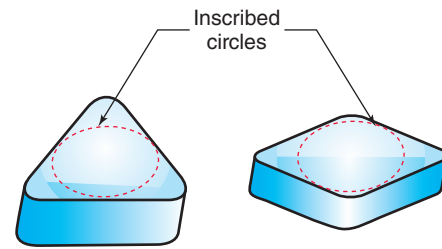

Figure 11-115 The inscribed circle describes insert size.
The Inscribed Circle For comparative reference, the largest circle that can be drawn on the insert face is used for the size called the **inscribed circle (IC)**. Ideally, choose an insert such that it will be cutting at about $\frac{2}{3}$ of its full IC cutting depth for roughing cuts (Fig. 11-115).